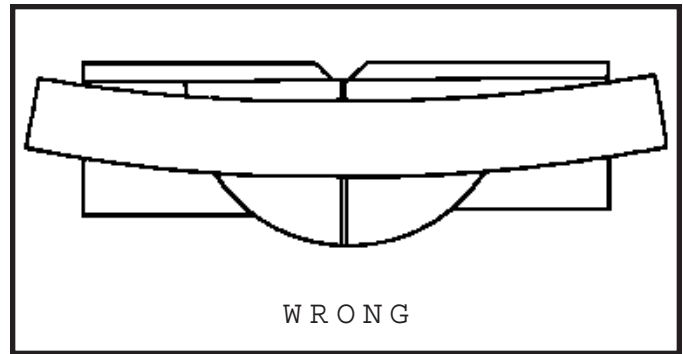

Fig. 47
2. If the material is positioned the wrong way, as shown in Fig. 47, the workpiece will pinch the blade near the completion of the cut.